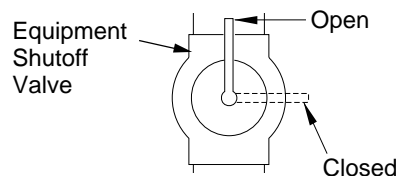

Figure 17 - Equipment Shutoff Valve
1. Close equipment shutoff valve (see Figure 17).
1. Open equipment shutoff valve (see Figure 17, page 12).